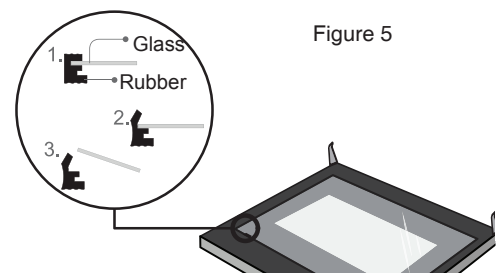

Figure 6
6.) After pulling out the inner glass, please take out the middle layer glass as shown in Figure 6.